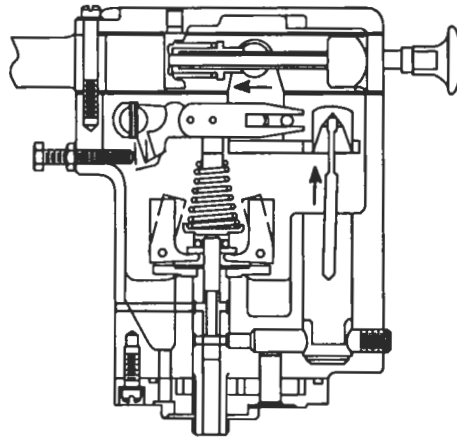

Figure 5. Position of Governor Mechanism as Load Increases and Engine Speed Tends to Decrease
7. When the load on an engine is increased, the engine speed will drop momentarily and the governor weights will be forced inward by the speeder spring permitting the pilot valve plunger to uncover the lower port in the ball head. With this port uncovered, oil, under pressure of the governor pump, will be admitted to the cavity at the lower end of the power piston and force the piston and the floating lever upward (Figure 5.) The upward motion of the piston is transmitted through the terminal lever and the fuel rod to the injector control tube, causing the fuel setting of the engine to be increased.